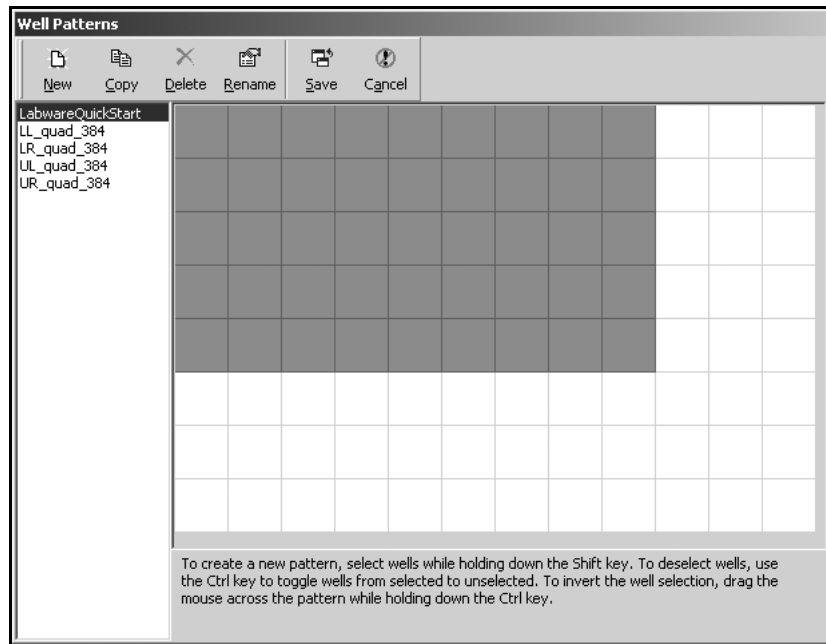

Figure 3-11. New pattern renamed
6. Enter LabwareQuickStart and choose **OK**. Figure 3-11 appears.